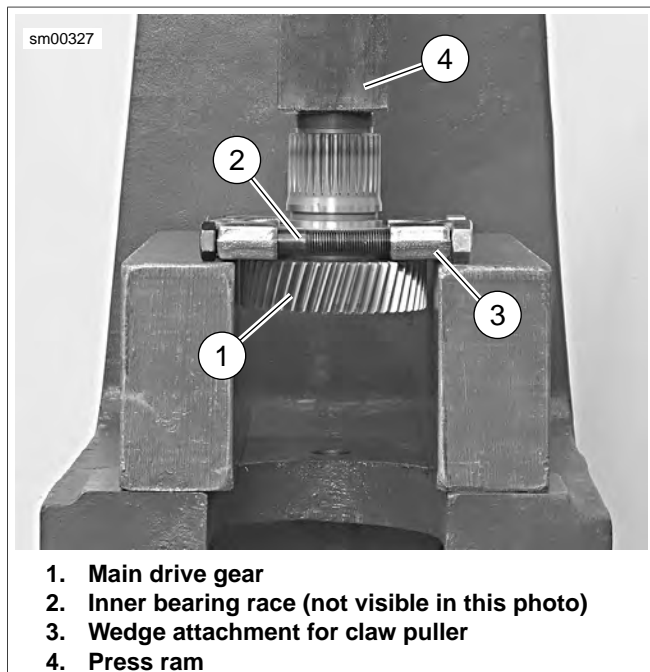

Figure 5-70. Removing Inner Bearing Race from Main Drive Gear
4. See Figure 5-70. Attach WEDGE ATTACHMENT (Part No. HD-95637-46B) for CLAW PULLER (Part No. HD-95635-46) (3) to inner race (2) on main drive gear (1).